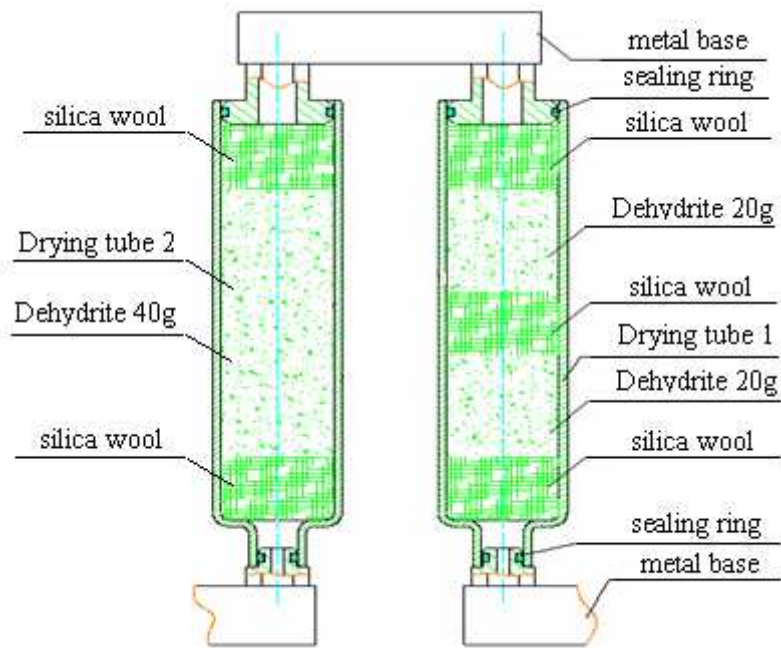

Fig. 3-3 Placing of Desiccant
- ✧ Please refer to Fig. 3-3 *Placing of Desiccant* for detailed installation sequence and dosage of silica wool and dehydrite.
The detailed installation, placing and dosage of the reagents are shown in Fig. 3-3 and 3-4.